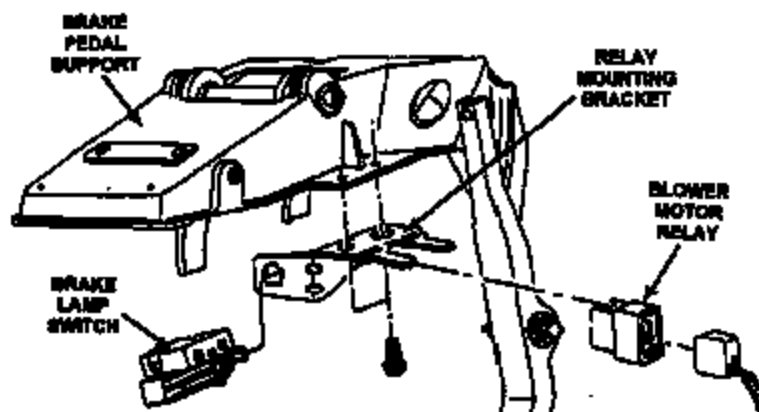

Figure 18
31. Attach the blower relay onto one of the horizontal relay mounting tabs on the bracket located on the brake pedal support just above the brake lamp switch and pedal (Figure 18).